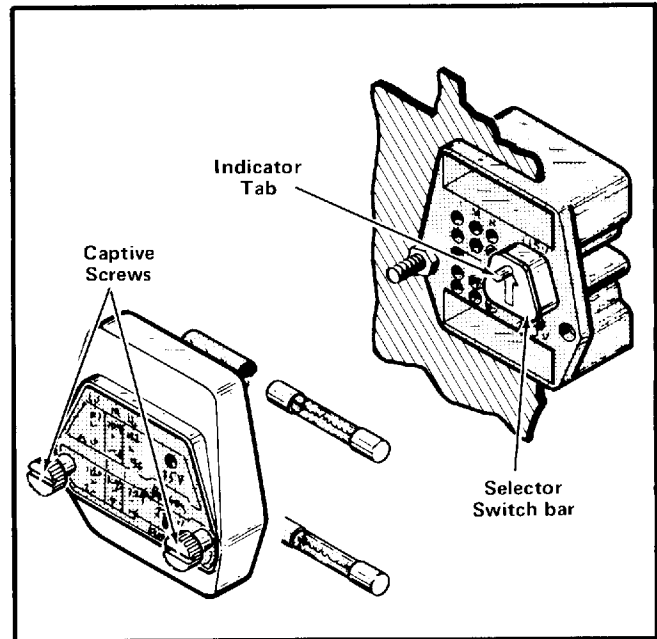

Fig. 1-1. Line Selector assembly on rear panel (shown with cover and fuses removed).
3. To convert from 115-volts to 230-volts nominal line voltage, or vice versa, pull out the Selector switch bar (see Fig. 1-1) and plug it back into the remaining hole. Change the line-cord power plug to match the power-source receptacle or use a 115- to 230-volt adapter.